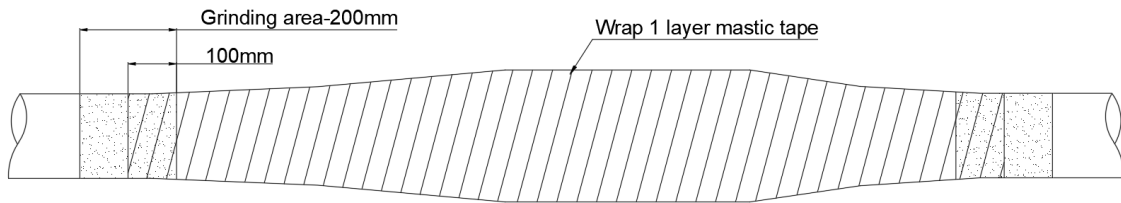

Fig.19
- From the outer jacket of the cable: the 200mm area needs to be polished and cleaned, wrap 1 layer mastic tape as shown Fig.19 (200% stretched, semi-lapped winding).